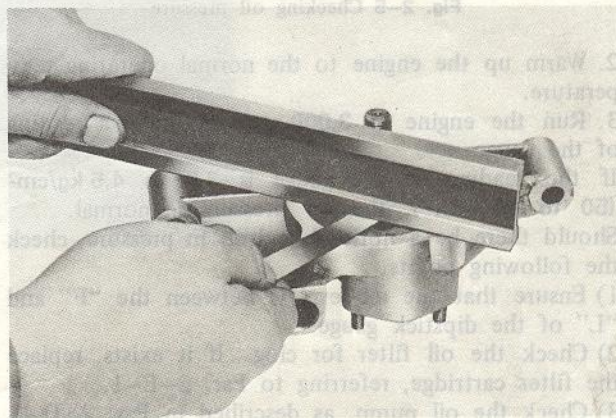

Fig. 2-11 Checking end float (1)
3. Check the end float of the rotors. Place a straight edge across the pump body and measure the clearance between the rotor and the straight edge with a feeler gauge, as shown in Fig. 2-11.